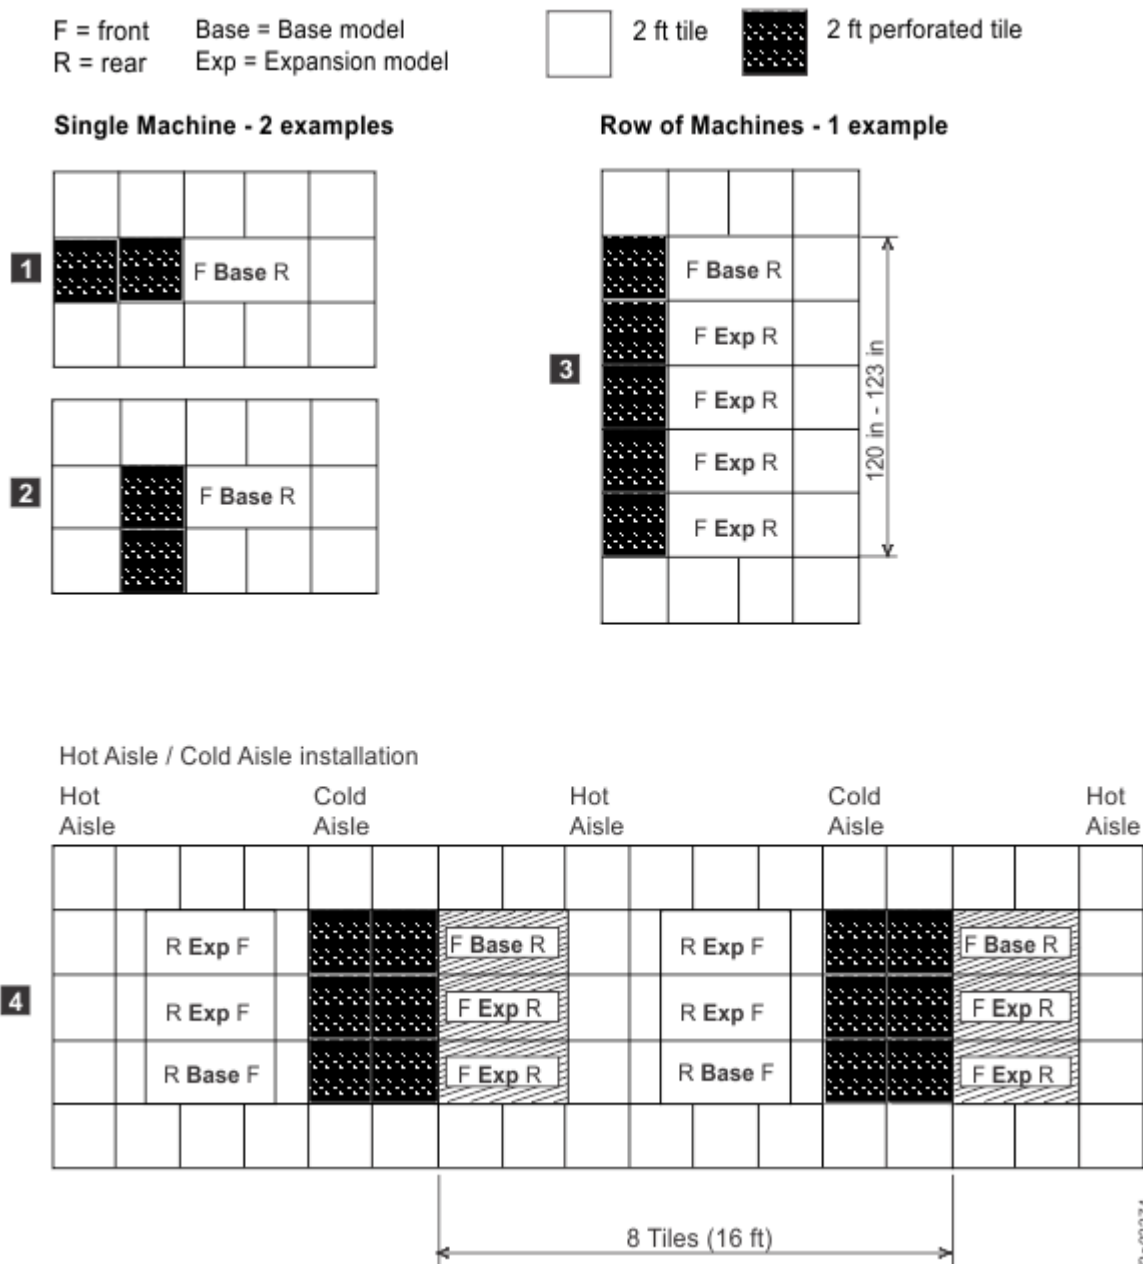

Figure 20. Typical rack and perforated tile locations for hot and cold aisles
- a. For stand-alone base frames, install two fully perforated tiles in front of each base frame, as shown in Figure 20 on page 132 in the single-machine examples (**1** and **2** in the figure).
- b. For a row of storage systems, install a row of perforated tiles in front of the storage systems as shown in Figure 20 on page 132 (**3** in the figure).
- c. For groupings of storage systems, where a hot aisle/cold aisle layout is used, use a cold aisle row of perforated tiles in front of all storage systems. An example of a possible minimal arrangement is shown in Figure 20 on page 132 (**4** in the figure).
Note: Keep in mind that the example represented in Figure 20 on page 132 meets service clearance requirements. However, floor loading requirements might require a wider hot aisle to provide up to 30 inches of non-overlapping clearance (for total of 60 inches between the rear side of the frames on either side of the aisle.)